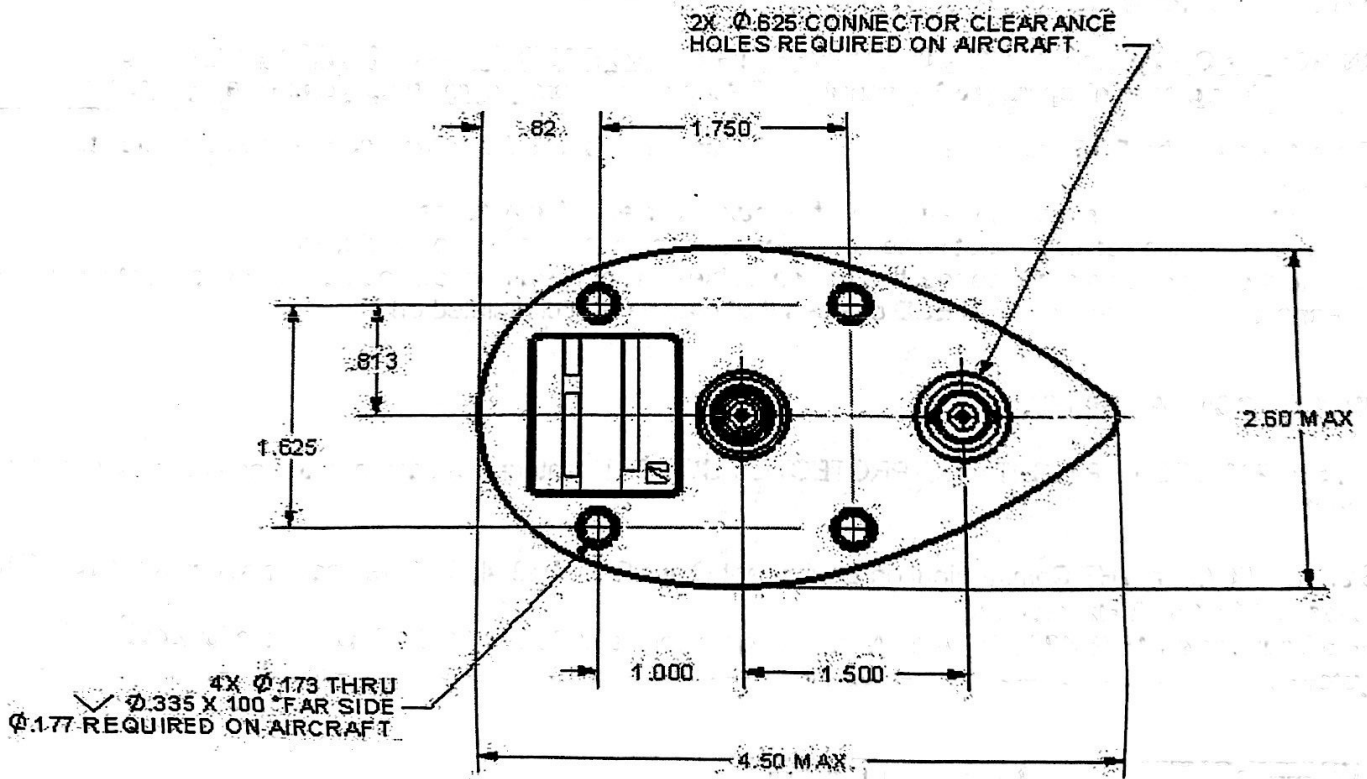

FIGURE 1.
- 2) Drill holes in the aircraft skin per the footprint on figure 1. Antenna clearance holes for the mounting screws must be 0.177" diameter and .625" diameter for the TNC (GPS) and single BNC (VHF) connectors. **NOTE: The footprint in figure 1 shown below is not to scale and is for reference only. Do not use it as a template for drilling holes.**